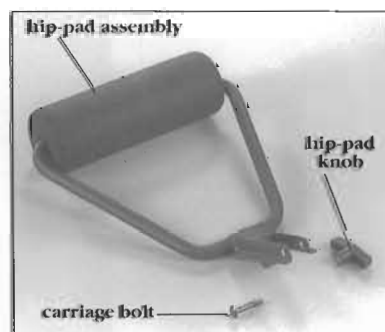

Figure 4
- 1 Carriage bolt (Figure 4)
- 1 Hip-pad knob (Figure 4)